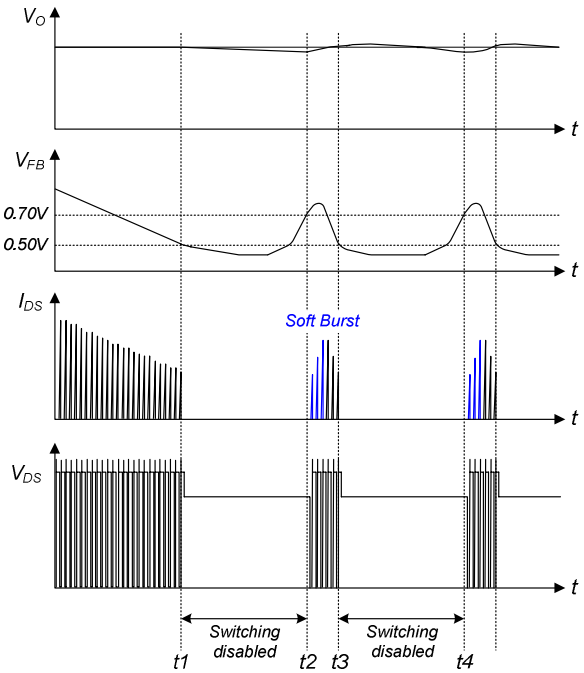

Figure 23. Burst-Mode Operation
5. Soft Burst-Mode Operation: To minimize power dissipation in standby mode, the FSGM0565R enters burst-mode operation. As the load decreases, the feedback voltage decreases. As shown in Figure 23, the device automatically enters burst mode when the feedback voltage drops below V_{BURL} (500mV). At this point, switching stops and the output voltages start to drop at a rate dependent on standby current load. This causes the feedback voltage to rise. Once it passes V_{BURH} (700mV), switching resumes. At this point, the drain current peak increases gradually. This soft burst-mode can reduce audible noise during burst-mode operation. The feedback voltage then falls and the process repeats. Burst-mode operation alternately enables and disables switching of the SenseFET, thereby reducing switching loss in standby mode.